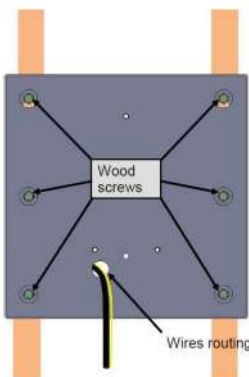

Figure 16: Fix optional plate with 6 lag screws using 17mm box spanner
- Route the input power cable and communication cable(if used) along with the optional plate grounding wire through the wire routing hole as shown in Figure 16 and fix the optional wall plate on the wall with 6 no's of M10X80 wood screws and M10 plain washers using 17mm box spanner. Ensure the plate is level and tighten completely using 17mm box spanner.